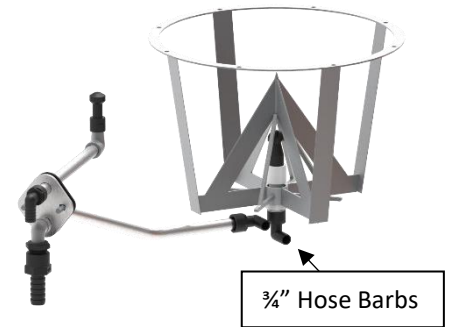

Figure 4.5: Knife Kit Installed
5. Use fifteen inches of 3/4" hose to attach hose barb to hose barb on Jug Knife frame. (Figure 4.5)